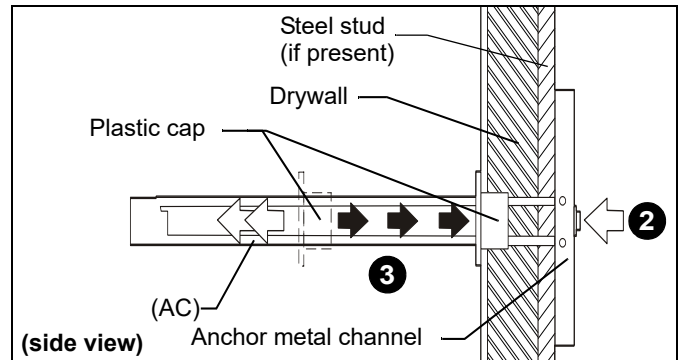

Figure 20
2. Holding plastic straps on anchor (AC), pull anchor away from wall until channel rests flush behind wall making sure anchor channel is positioned vertically on drywall, or steel stud (if present). (See Figure 20)
3. Slide plastic cap on anchor (AC) towards wall until flange of cap is flush with wall. (See Figure 20)